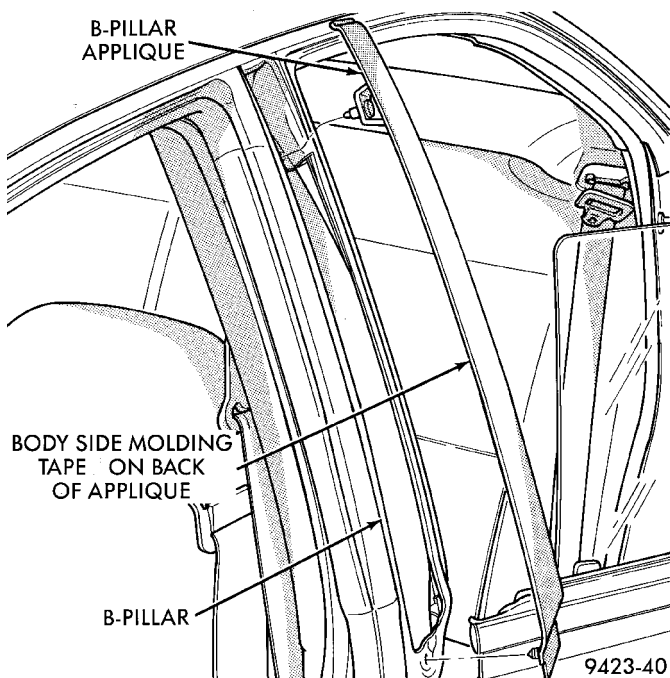

Fig. 43 B-pillar Applique
- (1) Open doors to gain access to bottom of B-pillar applique.
- (2) Disengage push-in fastener holding bottom of applique to B-pillar.
- (3) If temperature in work area is below 21°C (70°F), heat applique to aid adhesive separation from fastening tape.
- (4) Pull outward at bottom of applique to separate tape from B-pillar.
- (5) Disengage push-in fastener holding top of applique to B-pillar.
- (6) Separate applique from vehicle (Fig. 43).